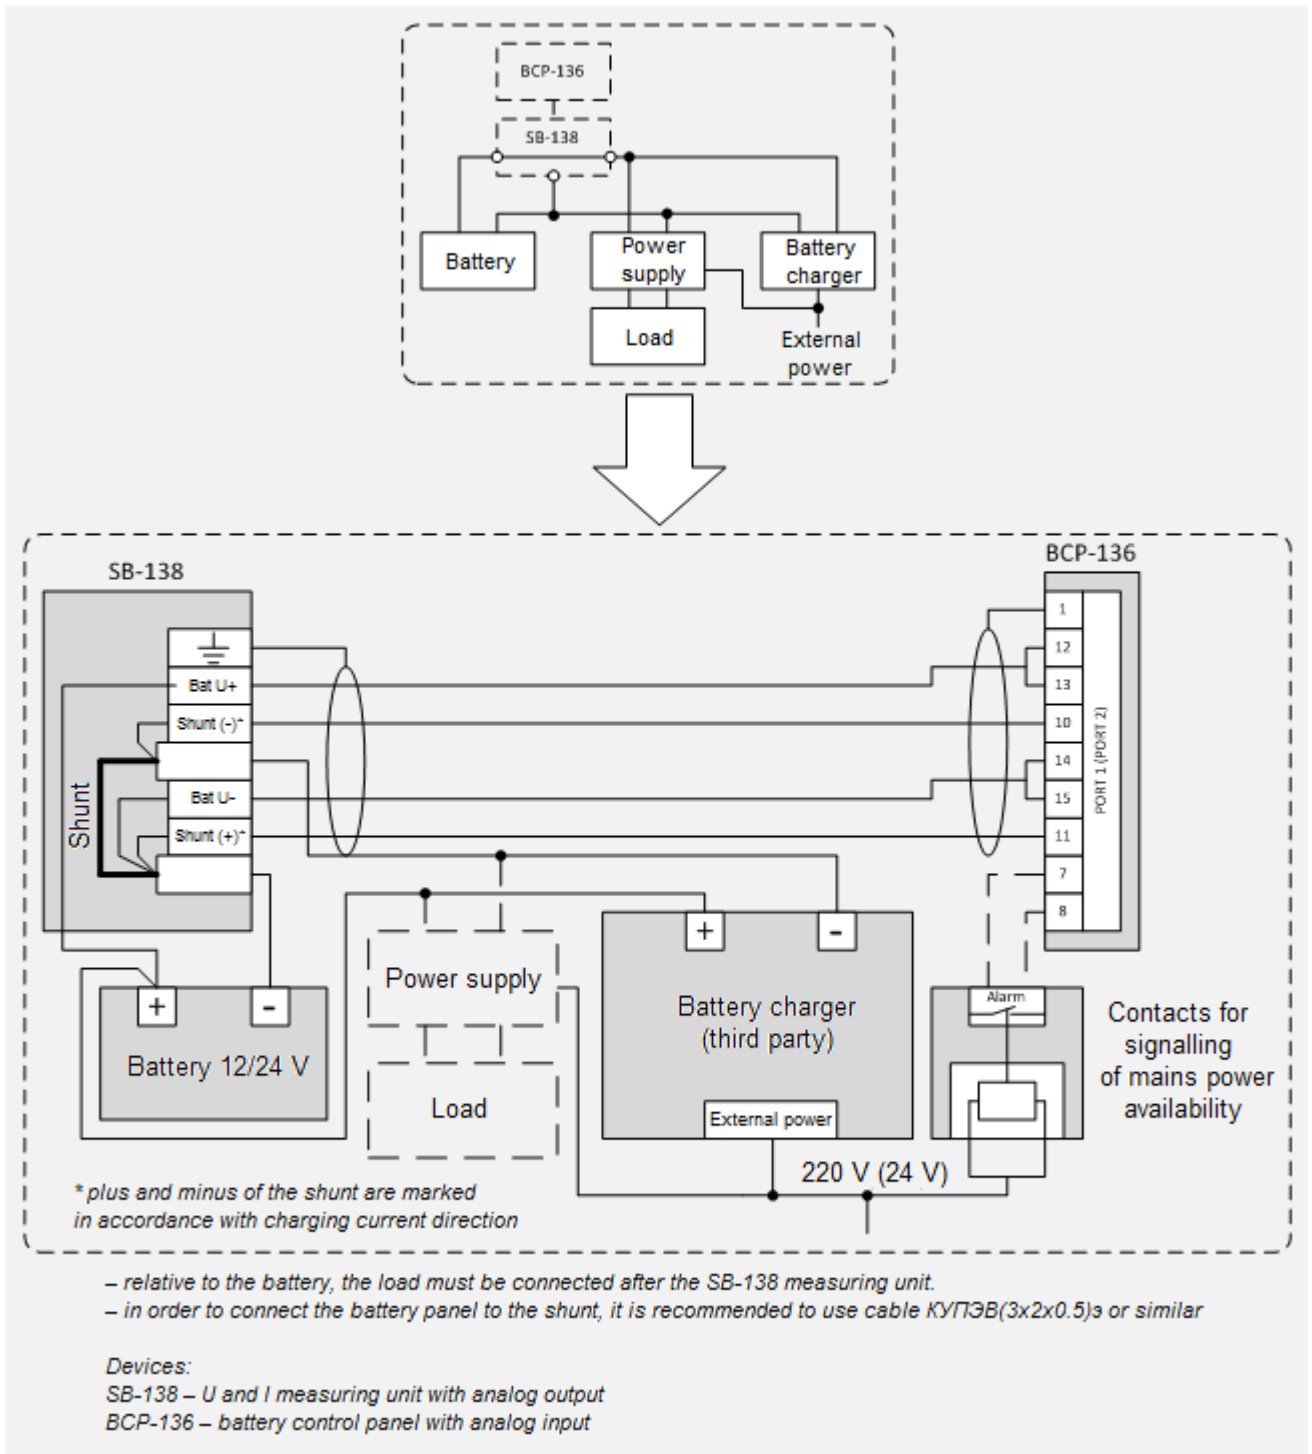

Fig. 6 Example of SB-138 connection to the analog interface
- analog interface (ref. Fig. 6) – SB-138. It allows to receive charge information from batteries and other (third parties') external devices.
- analog interface connection diagram is shown in Fig. 6.